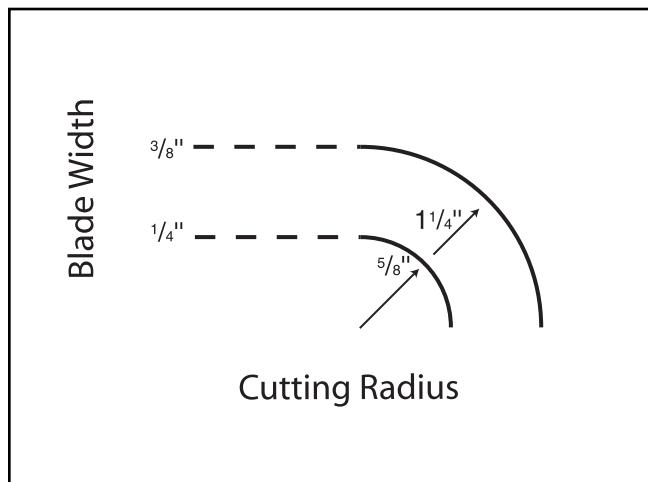

Figure 36. Determining correct blade width for cutting various curve sizes.
Refer to Figure 36 on page 29 to determine the best blade for cutting various curves.
- **Curve Cutting** — Use the chart in **Figure 36** to determine the correct blade for curve cutting. Determine the smallest radius curve that will be cut on your workpiece and use the corresponding width blade.